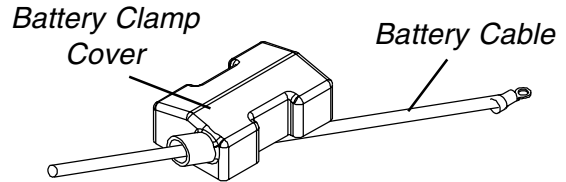

FIGURE 5 - CONNECTING BATTERY CABLES - BATTERY CLAMP METHOD
The battery clamp of the POSITIVE (+) battery terminal/post MUST be mounted in the position shown in FIGURE 5, otherwise the battery box top cannot be installed properly.
1. Perform one (1) of the following:
- A. If the battery clamp of the POSITIVE (+) battery terminal/post is **NOT** mounted in the orientation shown in FIGURE 5, perform the following:
2. Install battery clamp covers onto battery cables as follows: (FIGURE 5)